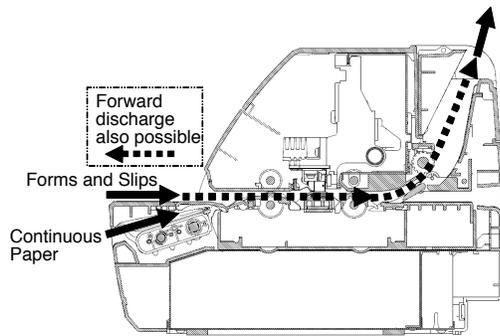

Figure 6-2. Upward Discharge Passage
- Normal media (forms, slips) take the upward passage shown in Figure 6-2 and discharges at the top of the printer. After intake and printing, allowing the media to discharge in the direction of flow reduces discharge time (forward discharge also possible). Depending on the type of media used, the operator can select the discharge direction with a flip of a lever.